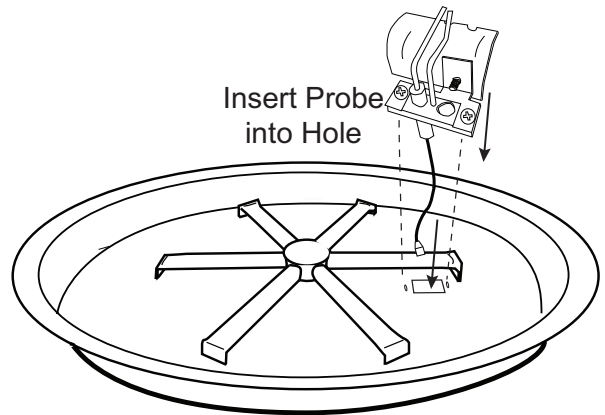

Fig. 10 Inserting probe assembly into pan/disc.
Step 2: Remove the two stainless steel screws and nuts from the probe assembly but leave it assembled. Carefully slide the orange wire from the top of the pan through rectangular hole in the fire pit pan resting over the burner leg and install the screws into the existing holes of the cover plate (See Fig. 10).